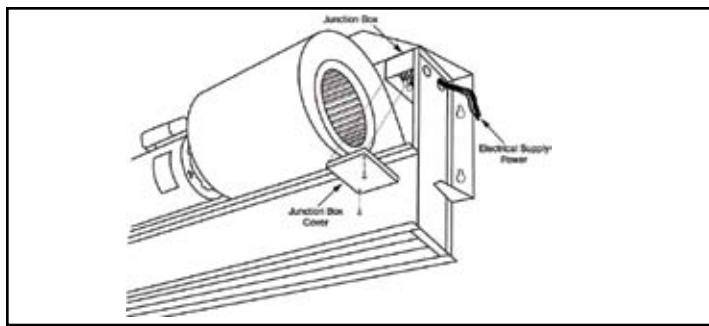

FIGURE 5 - Junction Box
- C. Remove the junction box cover located on the right-hand side of the unit. **See Figure 5.**